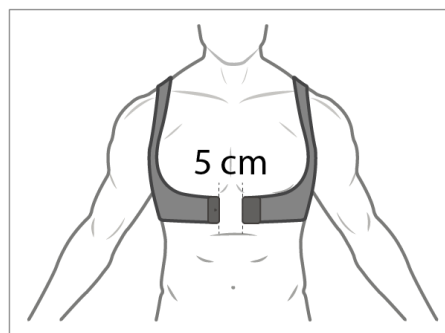

Figure 11 Fitting the Sensor Belt
2. Hold the Sensor Belt by its ends with the silver-coloured patches facing inward towards the body. Place the belt around the body with the fastener facing the front and both shoulder straps comfortably placed on each shoulder. There should be an approximate 5 cm separation, between the fastener as shown in Figure 11.